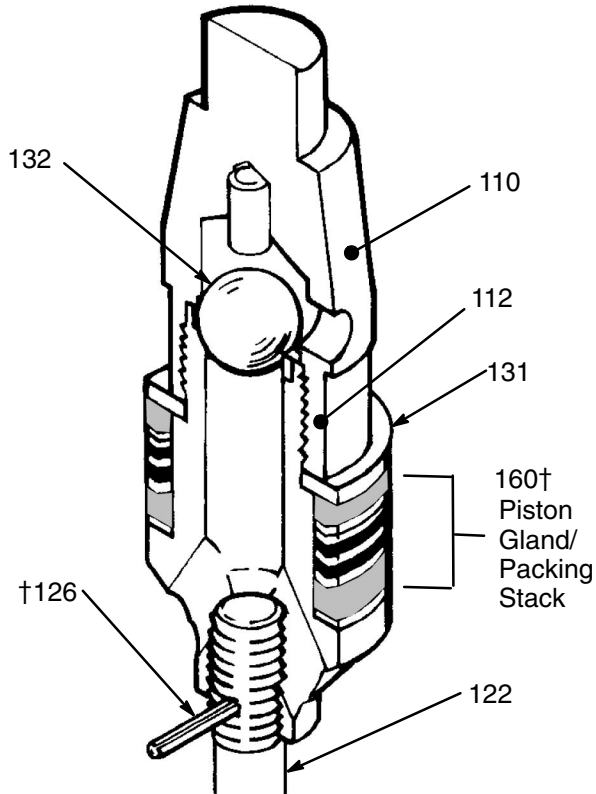

Fig. 6
3. Loosely install the wet-cup/packing nut (136) into the pump housing (109).
4. Refer to Fig. 6 for displacement pump service. Install the gland/packing stack (160†) on the piston valve (112) as follows, with the lips of the v-packings facing up.
5. Slide the gland/packing stack supplied in Repair Kit 222101 down onto the piston valve (112). Do not disassemble the packing stack, and be sure the lips of the v-packings are facing up. Install the backup washer (131) on top of the gland/packing stack.